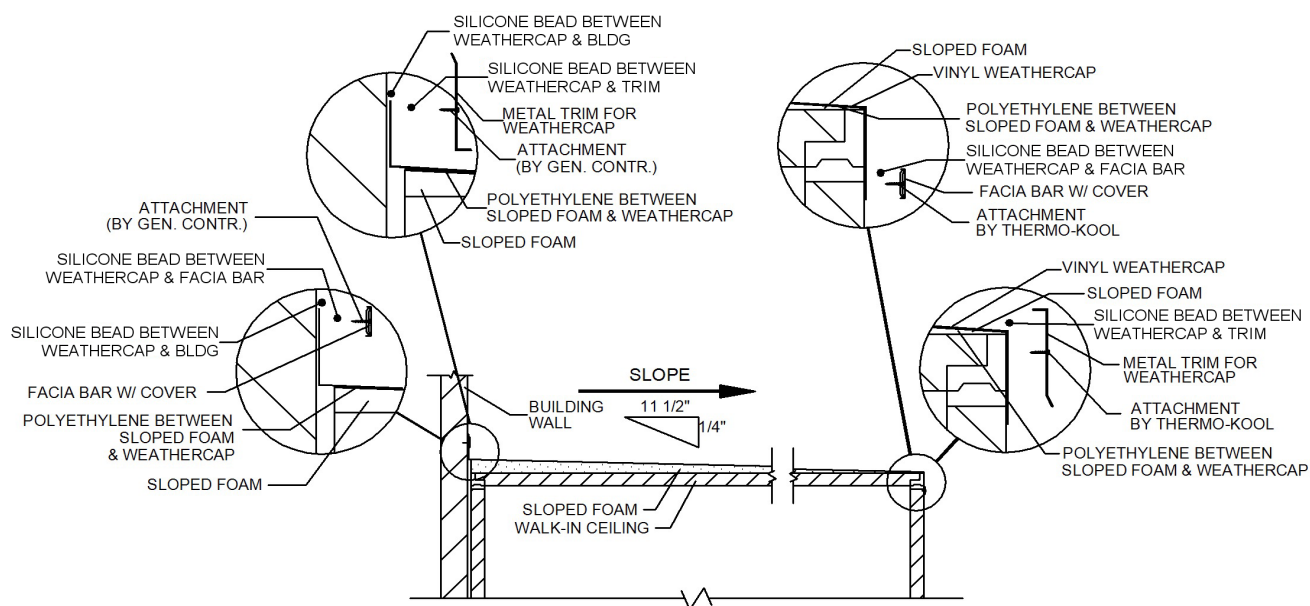

FIGURE 25 - SLOPED VINYL WEATHERCAP SECTION
1. Install sloped foam on the top of the walk-in ceiling panels to control water flow from the roof (Refer to Figure 25 on Page 13).
Note: Where the walk-in is installed next to a building wall, the end of the vinyl weathercap must be turned upwards and attached to the building wall. The 6" overhang must be slit at the adjacent corners in order to accomplish this. Attach the metal trim in an inverted position over the vinyl weathercap and seal the seams with silicone as shown (Refer to Figure 25 on Page 13).